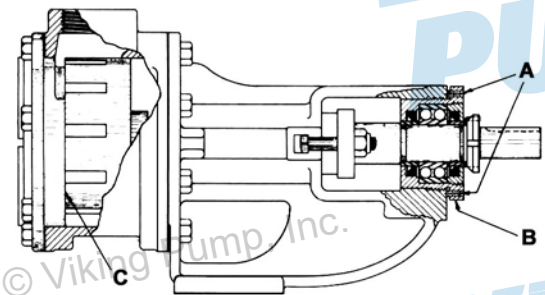

FIGURE 5
4. Loosen two setscrews in the face of the bearing housing and remove the bearing housing assembly from the bracket. **Refer to Figure 5.**
See Fig. 5